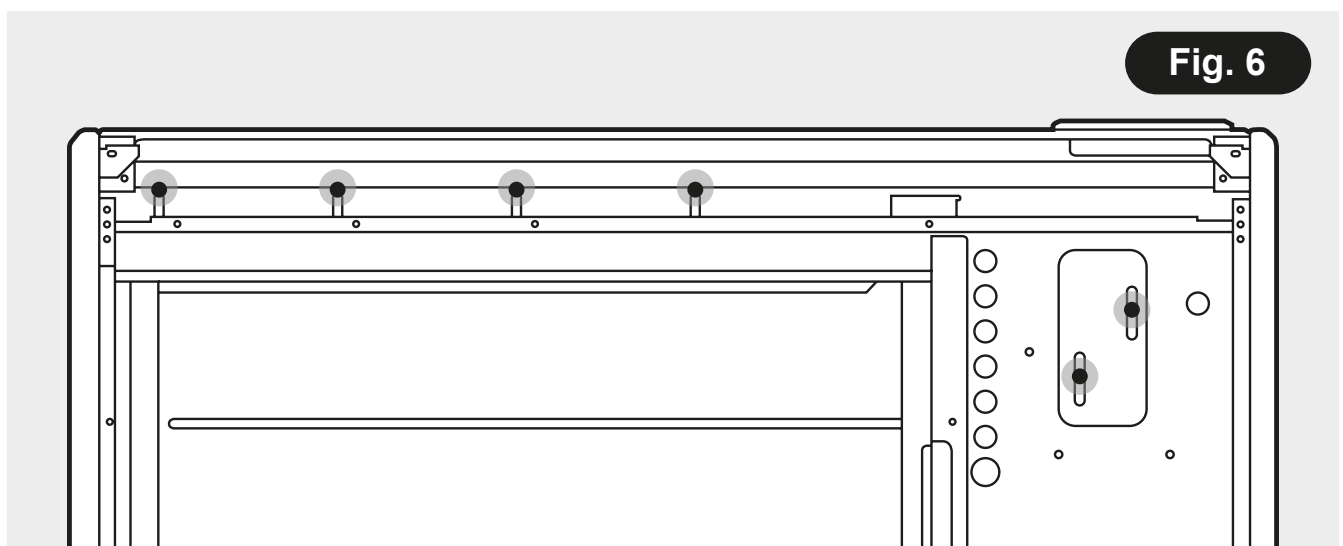

Fig. 6
6. Six fixing positions must be selected for models VASH100E, VASH125E, VASH150E and at least 4 fixing positions for models VASH050E and VASH070E. **Fig. 6.**
Ensure the screws retaining the heater to the wall are fully tightened, once the energy retention cells are fully loaded. **(Fig. 6)**